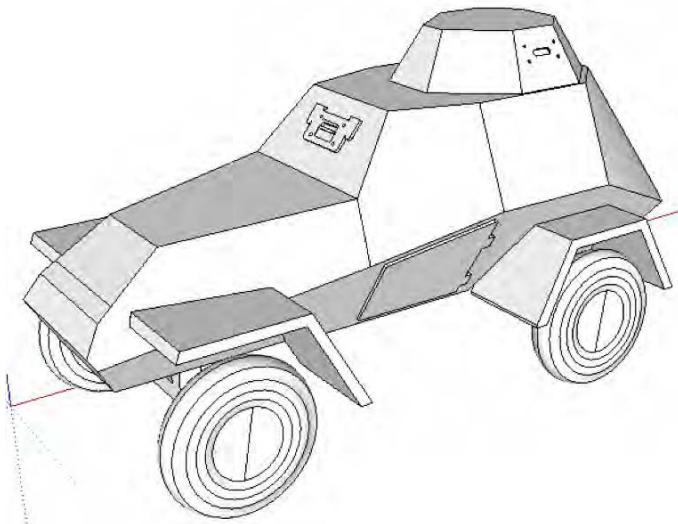

Figure 8-33. Axle and wheel attached to the chassis of the model
5. After the axle and wheels are aligned with the body, right-click, and select Explode so they attach with the entire model. The model should look like Figure 8-33 after you are all done.